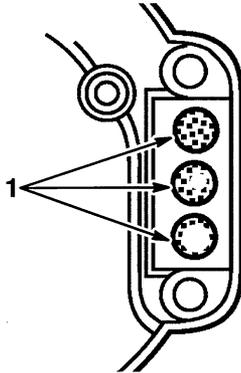

Figure 34
- Rotate crankshaft slowly until piston covers exhaust ports (Fig. 34).